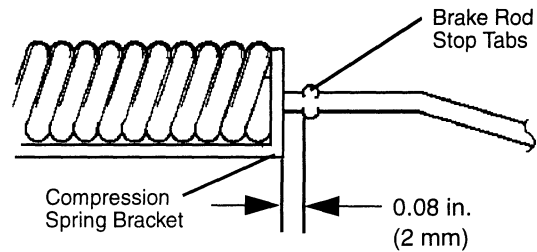

FIG. 41
- Refer to Figure 41. Measure distance from inside of brake rod stop tabs to outside of compression spring bracket (located below foot tread area on L.H. side of transmission). Distance should be **0.08 – 0.40 in. (2 – 10 mm)**.